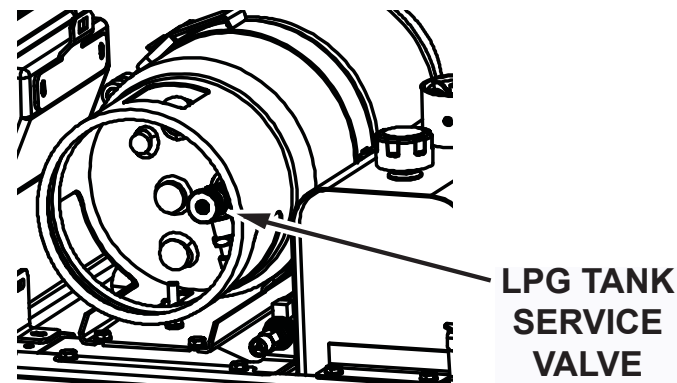

Fig. 1: LPG Tank - Location of Service Valve
1. On LPG powered machines; Open the liquid service valve (turn valve counter-clockwise) on the LPG tank (See Fig. 1).